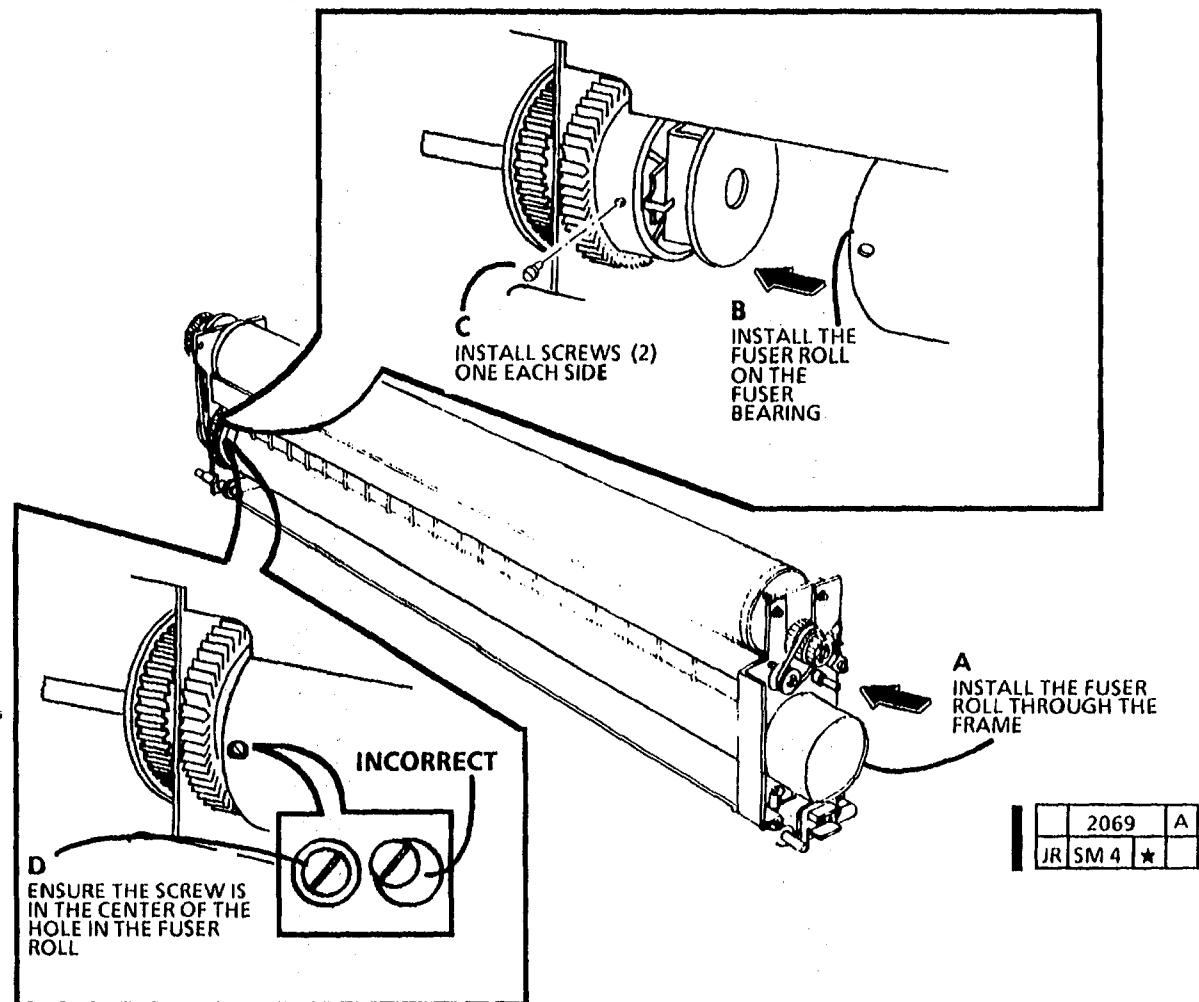

Figure 3. Reinstall the Fuser Roll
1. (Figure 3): Reinstall the fuser roll.